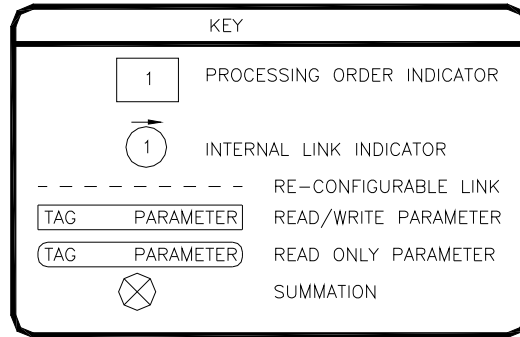

Figure 3: Software Block Diagram Key
Programming and adjustment of the Cortex® LT is accomplished by changing parameter settings via the one of the serial port COM connections. Each parameter has a descriptive name and a tag (or number) identifier. Parameters are grouped together in blocks according to their function. The following sections contain each software block diagram and descriptions of each parameter function. Refer to Figure 3 for key conventions that are used in the block diagrams. Each parameter is one of three types: Read-Only (RO), Inhibit Change while Running (ICR), or Read-Write (RW). ICR parameters can be changed only when the unit is not in the Run mode.